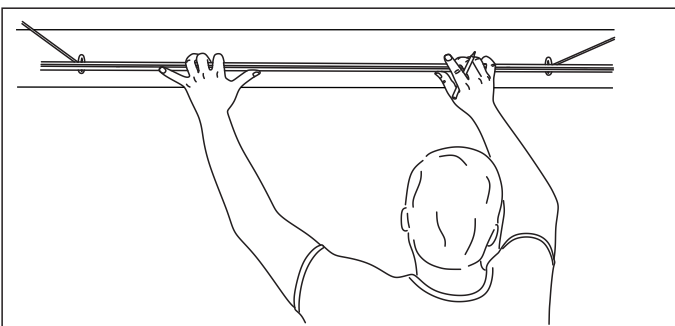

Fig. 14
1. Confirm your measurements by holding the profile that you marked earlier against the cables and structure. Center it and mark the contact points with the cable a second time (Fig.14).